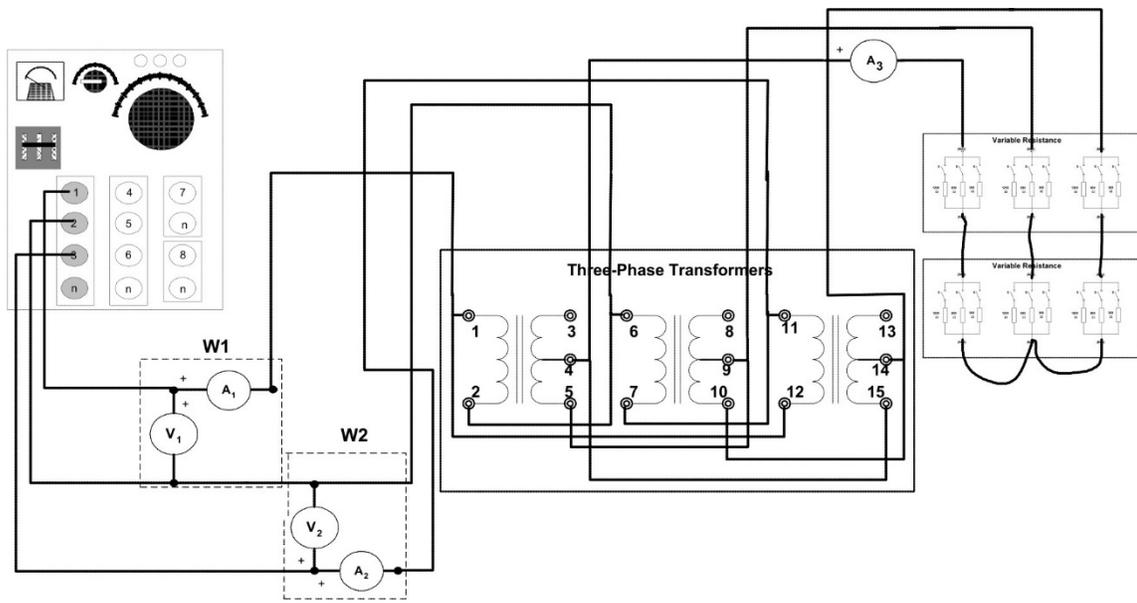

FIGURE 5.12
- 4) Analyze the circuit shown in Figure 5.12 assuming that the transformer ratio of every single-phase transformer is 3:1 (that is, the 208 V winding is the primary and the 120 V winding is the secondary).
Step 1: Connect the circuit shown in Figure 5.12. Neutral connection will not be used. Use the fixed output of the power supply as your power source. The single-phase transformer ratio to be used is 3:1.